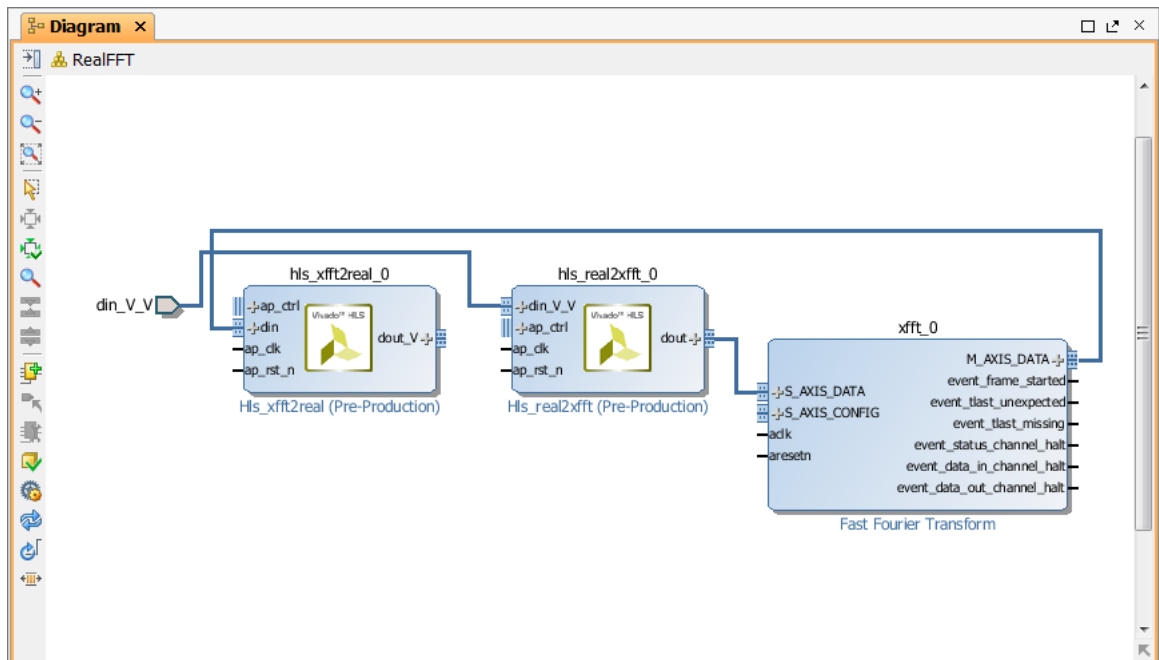

Figure 9-18: Make External Connections
- Right-click the `din_V_V` interface connector on the `hls_real2xfft` block and select **Make External** (Figure 9-18).